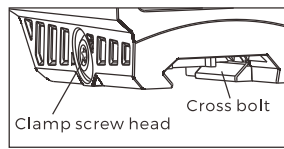

Fig 6
2. Using the included T10 Torx tool, loosen the cross bolt and then attach the sight into the Picatinny rail in an appropriate position. Apply forward pressure towards the muzzle and tighten the clamp bolt. (Fig6)